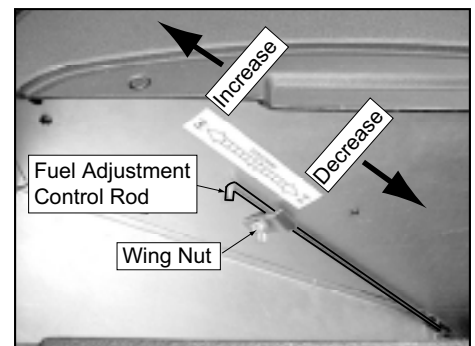

Figure 22.3
2. Loosen the wing nut. **Figure 22.3.**
3. Adjust the feed adjustment control rod upward towards the "+" symbol to increase the feed rate and flame height or down towards the "-" symbol, to decrease the feed rate and flame height. **Figure 22.3.**